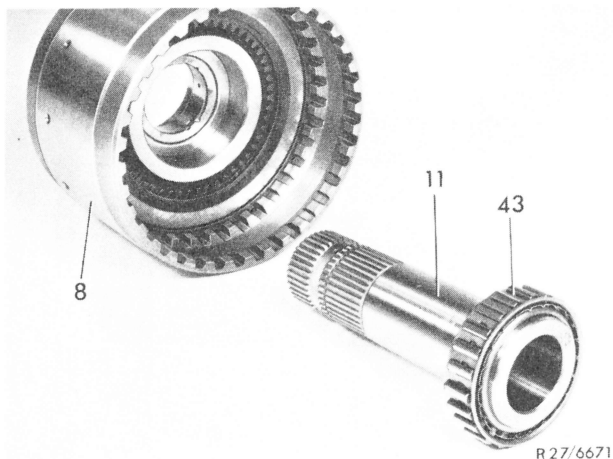

Fig. 9
11 Remove hollow shaft (11) and roller clutch (43) from clutch K 2 (8) (Fig. 9).